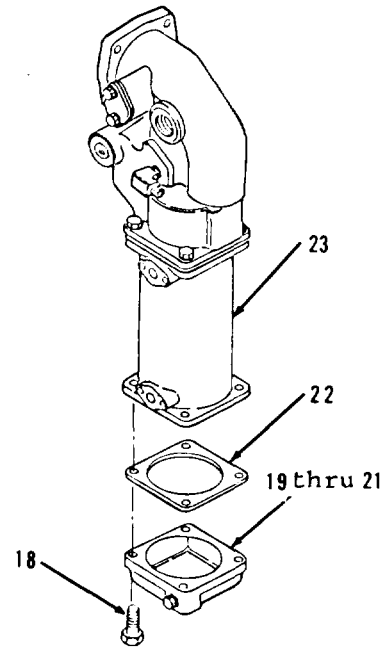

Figure 5-62.
1. Remove eight bolts (18), items 19 thru 21 as an assembly and gasket (22) from transmission oil cooler core (23, Figure 5-62). Discard gasket (22). Remove all gasket material from mounting surfaces.
6. Position new gasket (22) and items 21 thru 19 as an assembly on bottom end of transmission oil cooler core (23, Figure 5-62).
7. Install eight bolts (18).